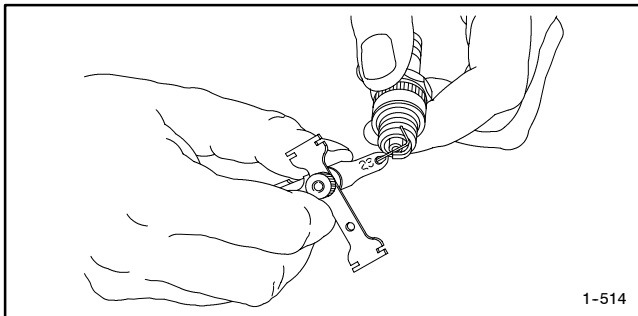
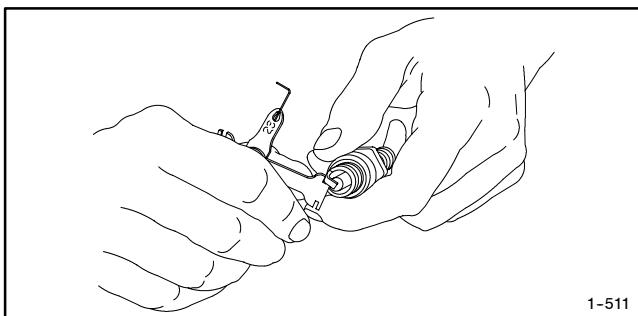

Figure 3-7 Checking the Spark Plug Gap
Figure 3-8 Adjusting the Spark Plug Gap
3. Check the spark plug gap using a wire feeler gauge. Adjust the gap to 0.76 mm (0.030 in.) by carefully bending the ground electrode. See Figure 3-7 and Figure 3-8.